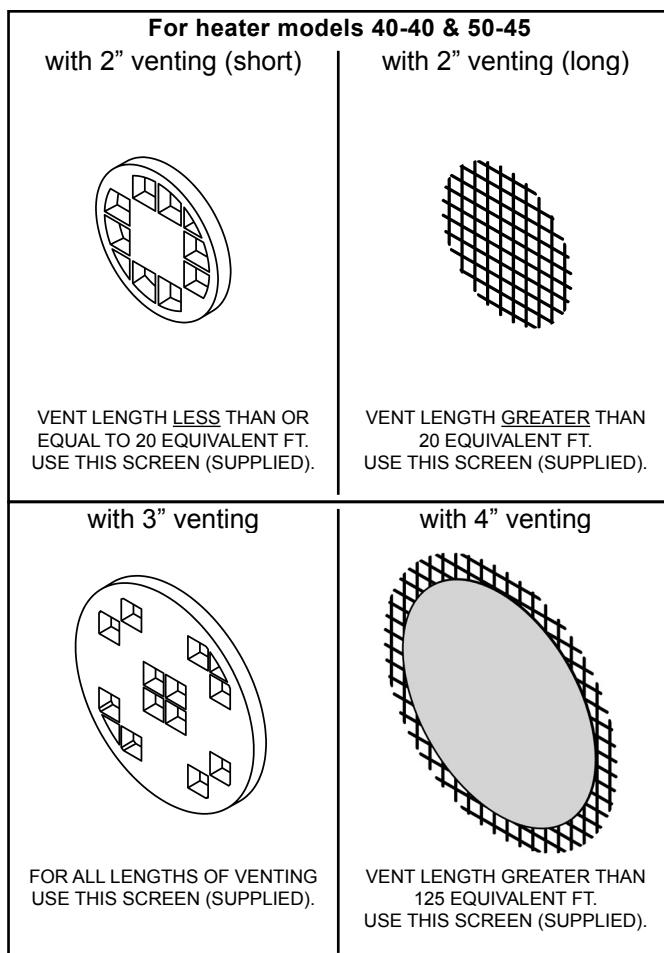
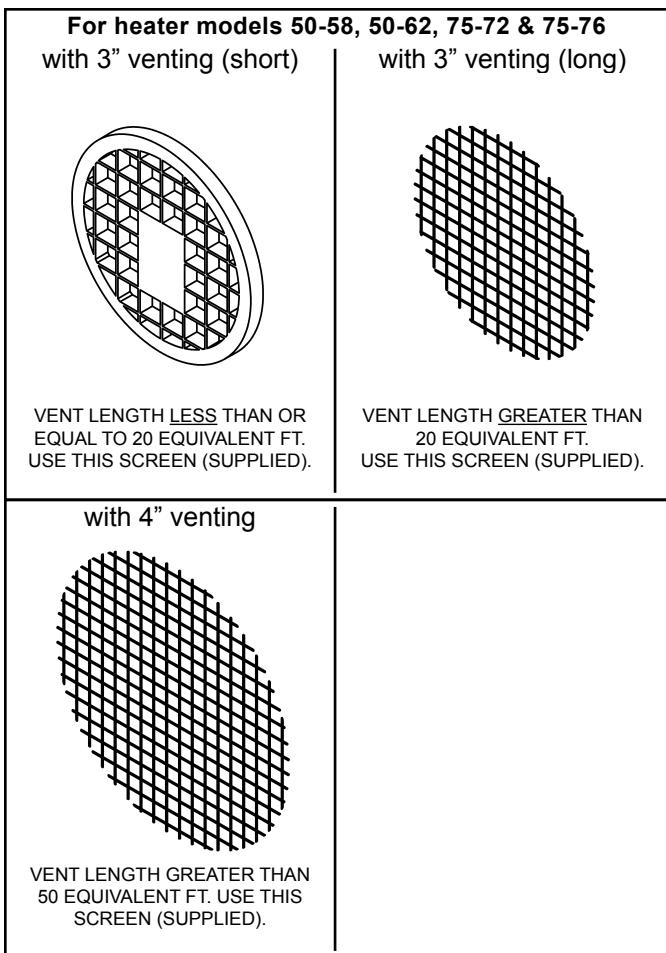

Figure 36.
Figure 37.
* see Figure 36 and Figure 37
Use the appropriate vent termination screen as shown in Figure 36 & Figure 37. Install the vent termination screen in both the air intake pipe and the exhaust pipe.
This water heater includes one (1) pair of more restrictive vent screens and one (1) pair of less restrictive vent screens (see Figure 36 & Figure 37). For safety and optimum efficiency performance, ensure the correct vent screen is installed for the vent length in your installation. A vent screen is required to keep foreign objects, rodents and small birds from entering the venting system. These screens have been sized to ensure maximum energy efficiency of the vent system based on the "equivalent length" of the vent piping. **CHOOSE ONLY THE ONE SCREEN THAT MATCHES YOUR VENTING CONFIGURATION** (see Figure 36 & Figure 37). The vent screen MUST be installed for proper operation of the water heater. How to determine the "equivalent length" is shown in Table 4.
- Supplied with this heater are several vent screens (see Figure 36 & Figure 37).